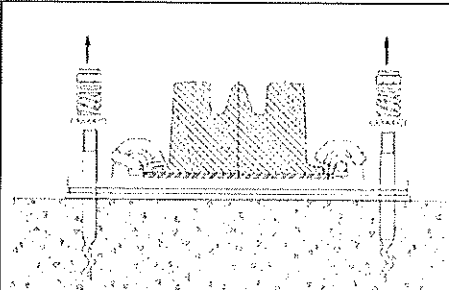

Fig. 15-Removal of the fastening materials
1. Loosen and remove fastening material, Fig. 15.